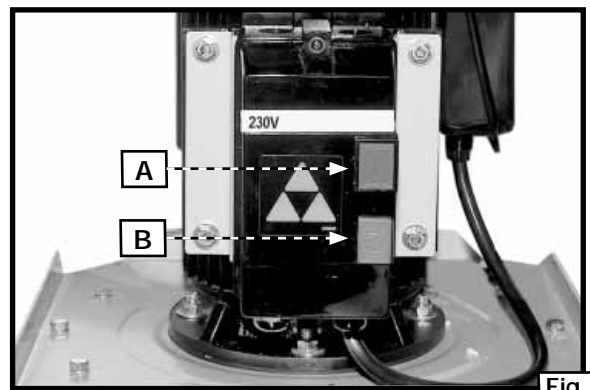
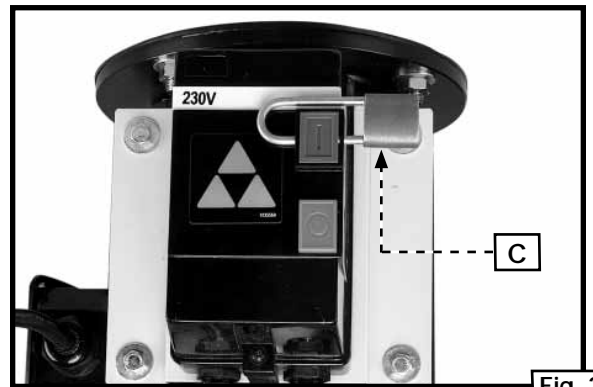

Fig. 19
Fig. 20
The on/off buttons (A) and (B) Fig. 19 are located on the front of the motor housing. To turn the machine "ON", push the "ON" button (A).
IMPORTANT: When the machine is not in use, the "ON" button (A) Fig. 19 should be locked to prevent unauthorized use, using a padlock (C) Fig. 20 with a 3/16" diameter shackle through the hole beside the button.